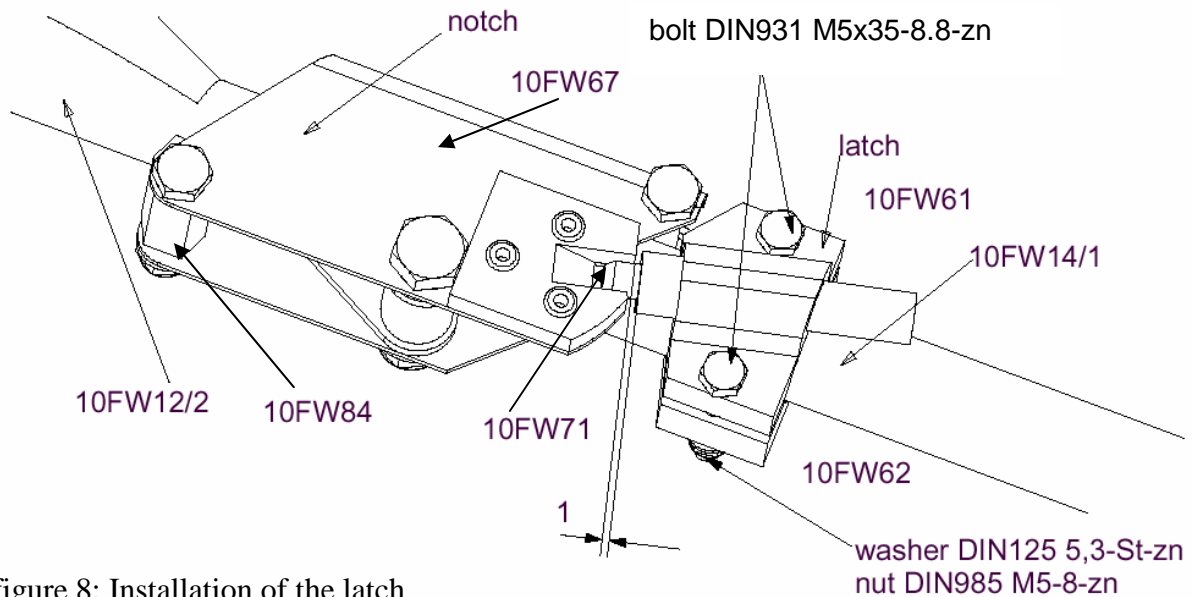

figure 8: Installation of the latch
15. Install the latch consisting of the 2 parts 10FW61 and 10FW62 which form a pipe clamp to strut 10FW14/1 see figure 8. Insert the locking pin 10FW71 with pressed in Bowden cable and the compression spring into the latch housing. Fix the cable with a clamp so that the pin can't fall out.
Important: There should be a distance of 1 mm between the notch and the latch housing see figure 8.
3. Install the adjustment screw to 10FW74. Insert the Bowden cable through the adjustment screw and through a Nicopress sleeve 28-1-C, lay around the thimble and insert into the Nicopress sleeve again. Pull the cable tight but not quite operating the locking pin 10FW71 (see figure 8). Mark the position. Unscrew the bolt which connects the thimble to the actuation unit, unfasten the adjustment screw, remove the bowden cable and pull it up and press the Nicopress sleeve.
5. Adjust the cable via the adjustment screw so that the locking pin disengages when retracting the landing gear. The distance 1mm according to figure 8 also applies for the disengaged locking pin.